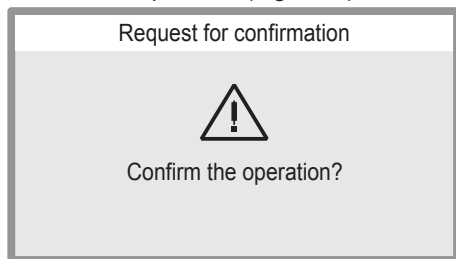

Fig. 7.20
- Press key 14 and wait 1 second.
- Press key 14 again.
- Press key 15 to reset the fault or key 16 to cancel the operation (Fig. 7.20).